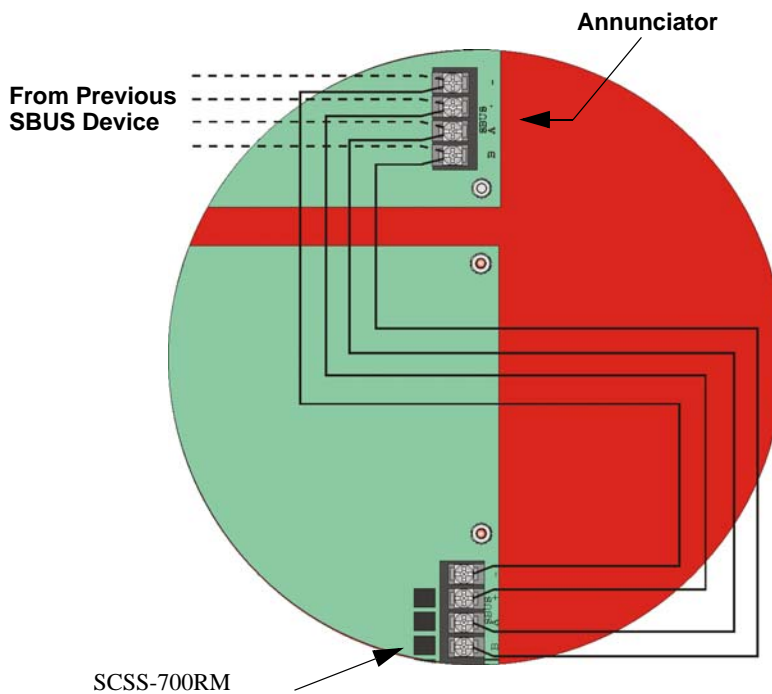

Figure 3-41 SBUS Wiring for SCSS-700RM
1. Refer to Figure 3-41 to properly connect the SCSS-700RM to the FACPs SBUS.
3. Connect the SBUS to the annunciator and SCSS-700RM. See Figure 3-41.